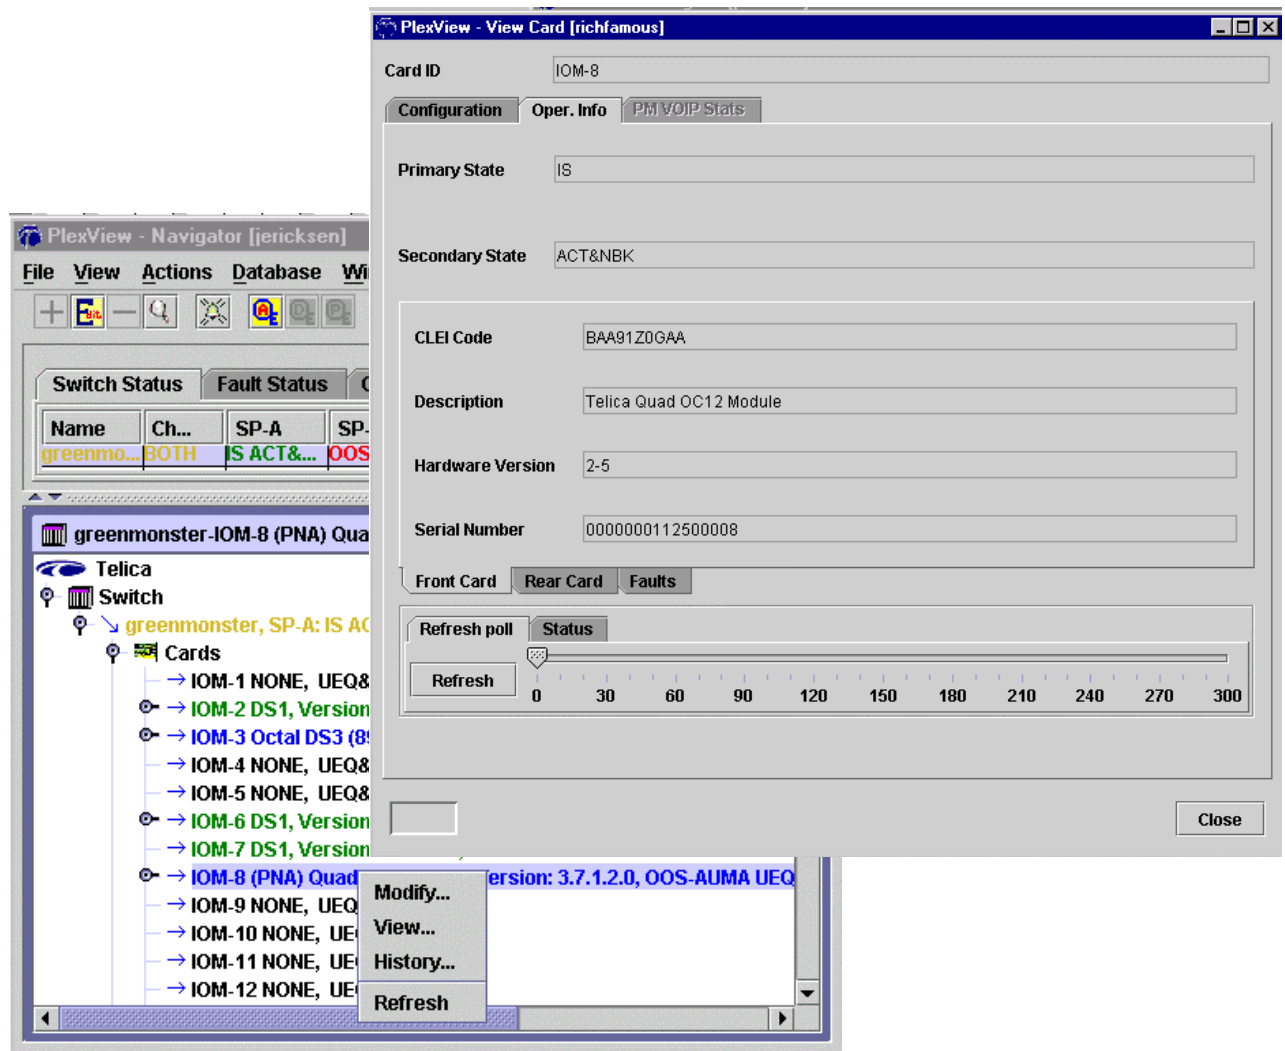

Figure 2. Operational Information
18. Double-click the switch to select it for the main panel and then double-click *Cards*. Right-click the desired IOM and then select *View* and then *Oper. Info*. Note the CLEI and software version. Refer to Figure 2.
If using **EMS**, then refer to Step 17 and Figure 2.